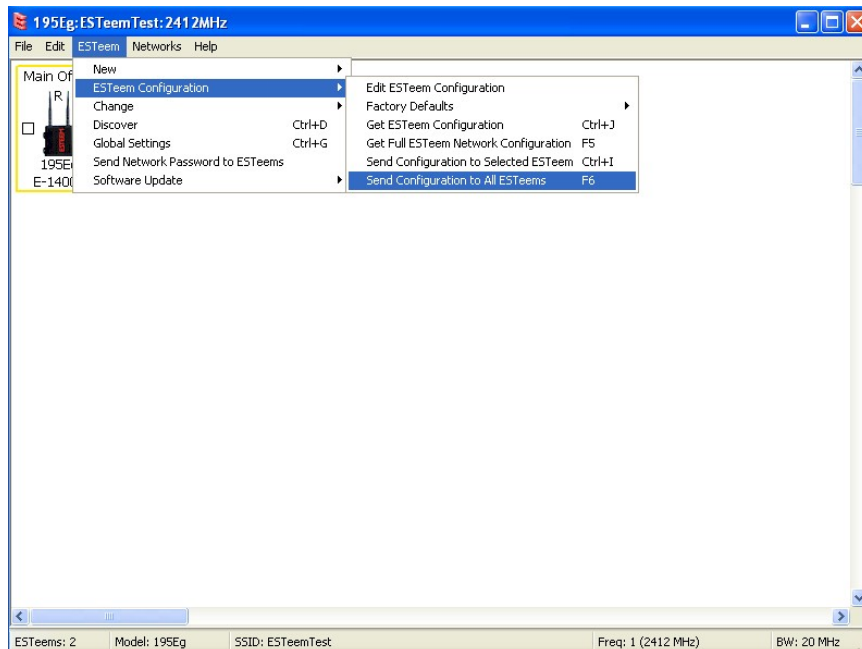

Figure 14: Send Configuration to ESTeems
5. Verify both ESTeem modems are connected to the same switch as the computer running the ENC Utility and send the configuration to both modems at the same time by selecting ESTeem>ESTeem Configuration>Send Configuration to All ESTeems (Figure 14).